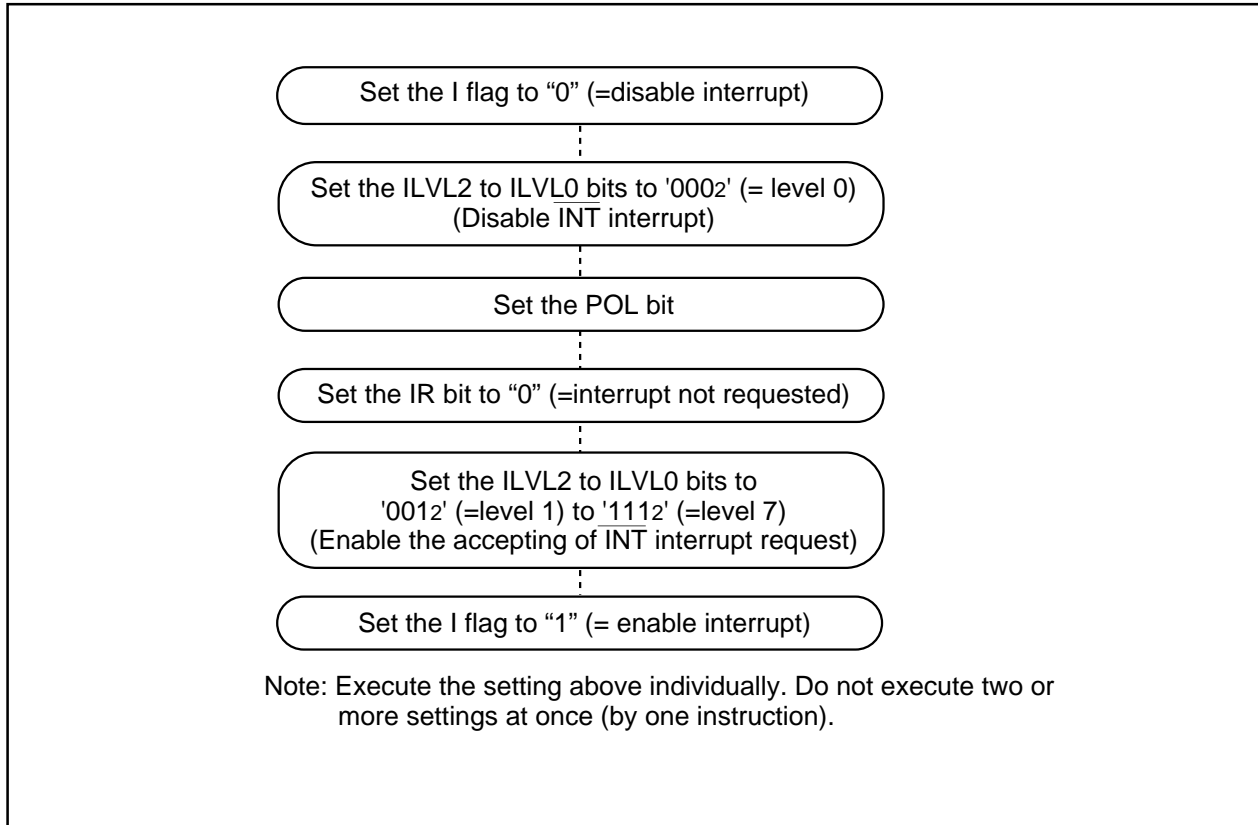

Figure 1.1.1. Procedure for Changing the \overline{INT} Interrupt Generate Factor
2. When the polarity of the $\overline{INT0}$ to $\overline{INT5}$ pins is changed or the interrupt request cause of the software interrupt numbers 8 to 9 is changed, the IR bit is sometimes set to "1" (interrupt request). After these changes were made, set the interrupt request bit to "0" (no interrupt request). Figure 1.1.1 shows the procedure for changing the \overline{INT} interrupt generate factor.